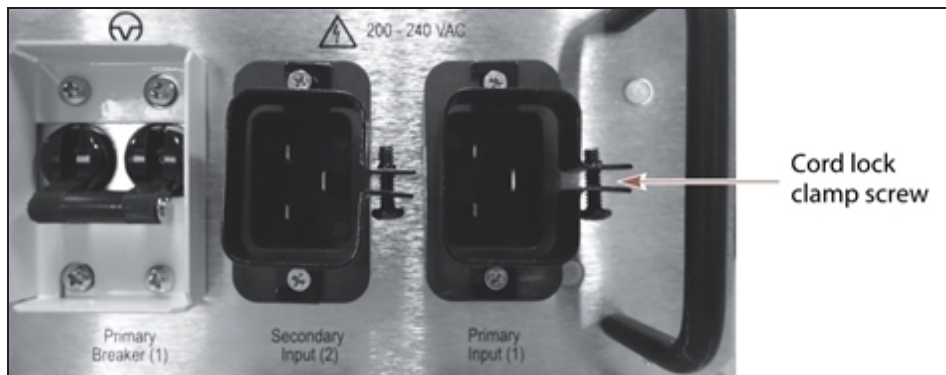

Figure 83 Install the cord locks on the power cords.
5. Place a cord lock over the connector on the end of the power cord that connects to the library. Orient the cord lock as shown in Figure 83.